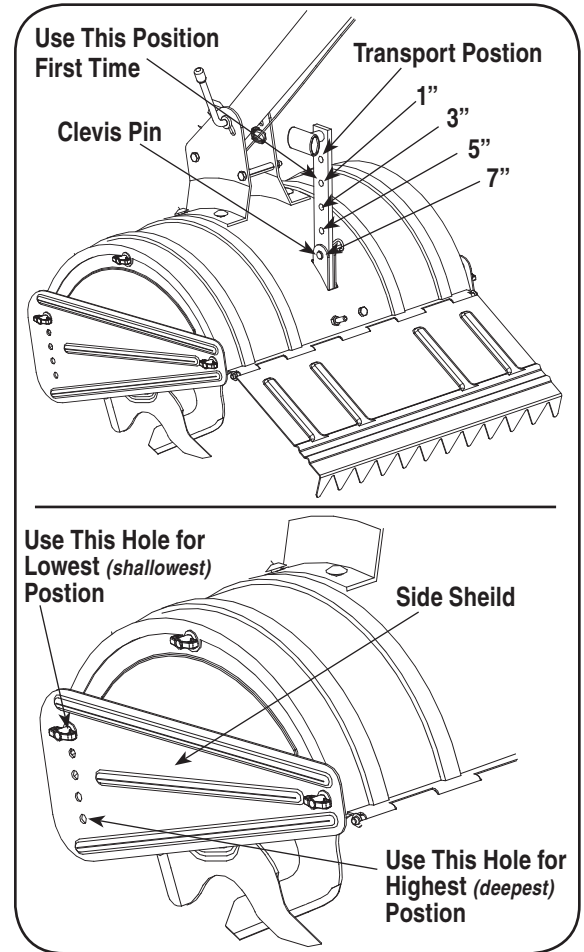

Figure 5-1
- When using the tiller for the first time, use the second adjustment hole from the top (1" of tilling depth). See Figure 5-1.